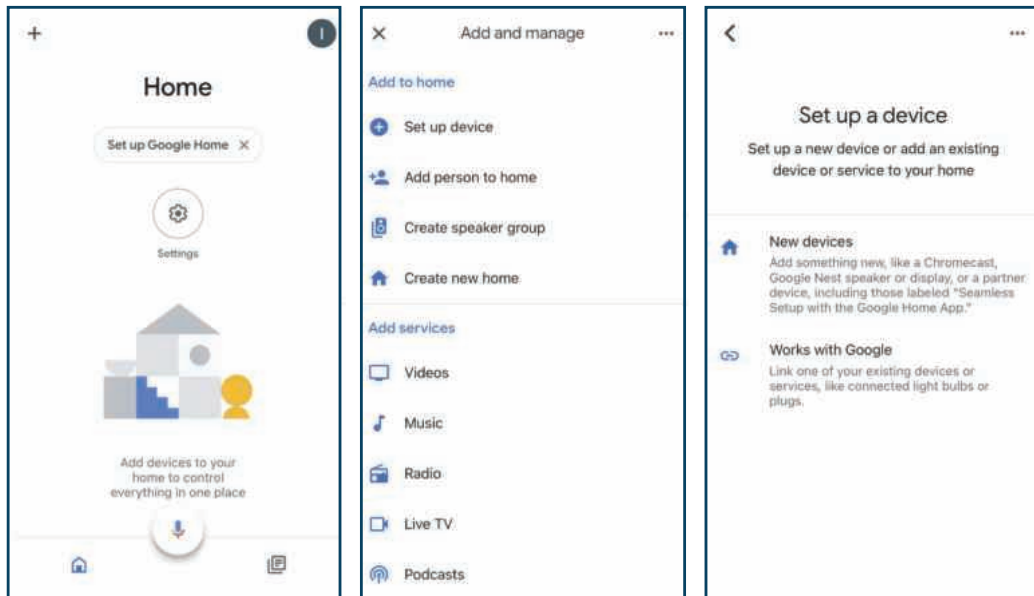

Figure 12
Step 1: Open Google Home App by tapping the app icon on your device. Tap "Sign up" and choose one Google account that the you already logged in on your mobile device. Find and tap"Settings" from Home page. And then tap "More Settings" (Figure 12)